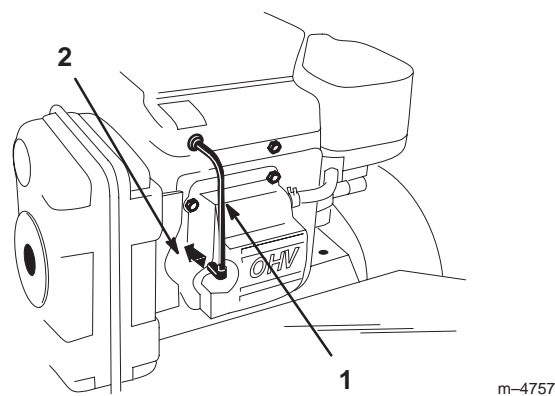

Figure 33
2. Pull the wire(s) off the spark plug(s) (Fig. 33). Now clean around the spark plug(s) to prevent dirt from falling into the engine and potentially causing damage.
3. Push the wire(s) onto the spark plug(s) (Fig. 33).